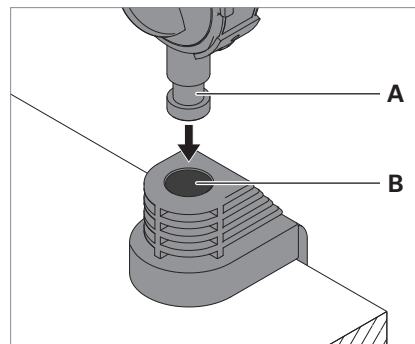

Fig. 2: Mounting the light to the fastening element.
► Insert the stud **A** on the light support into the opening **B** of the fastening element, see Fig. 2.